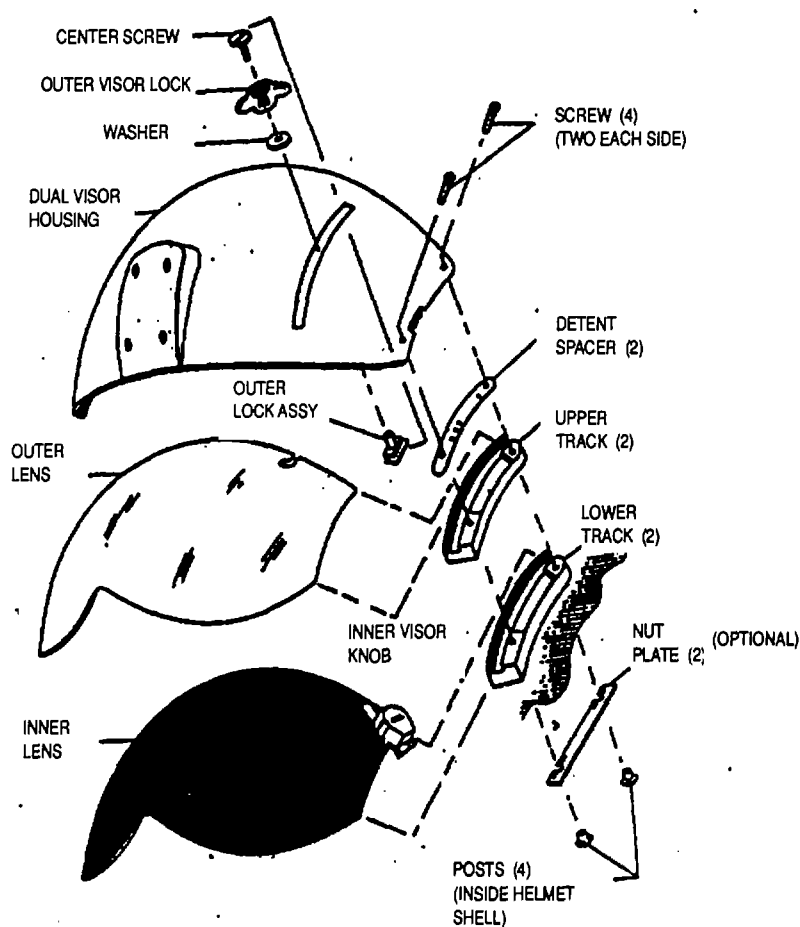

Figure 3-12. Dual Visor Assembly (Exposed View)
- Be sure to install spacers and tracks on the side of the housing (right or left) for which they were configured. When installed correctly, these parts will curve toward the center of the visor housing (see Figure 3-12.)
- Some visor assemblies include nut plates to be installed between the posts and the underside of the helmet shell to hold the posts in place. Steps 2 and 3 on the next page describe the installation of the nut plate. The flat side of the nut plate (the side without the prongs) must be installed facing the visor housing. Either edge of the nut plate - the straight edge or the slotted edge - may face outward; in Figure 3-12, the straight edge is shown facing outward.
- Spacer, tracks, screws, posts, and nut plate are shown only on the left side of the visor housing in Figure 3-12. A similar configuration exists for the right side.
Refer to Figure 3-12 and Figure C-2.